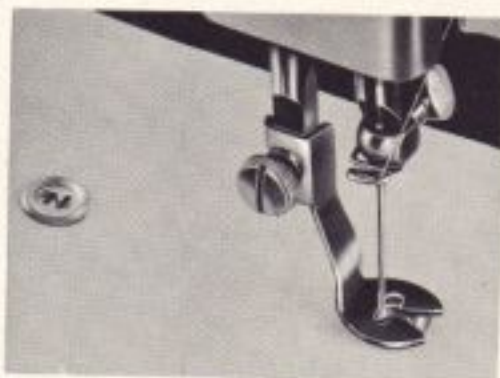

Fig. 33
5. While lowering the presser foot, place the button between presser foot and fabric so that the holes of the button line up in a position, as shown in Fig. 33.